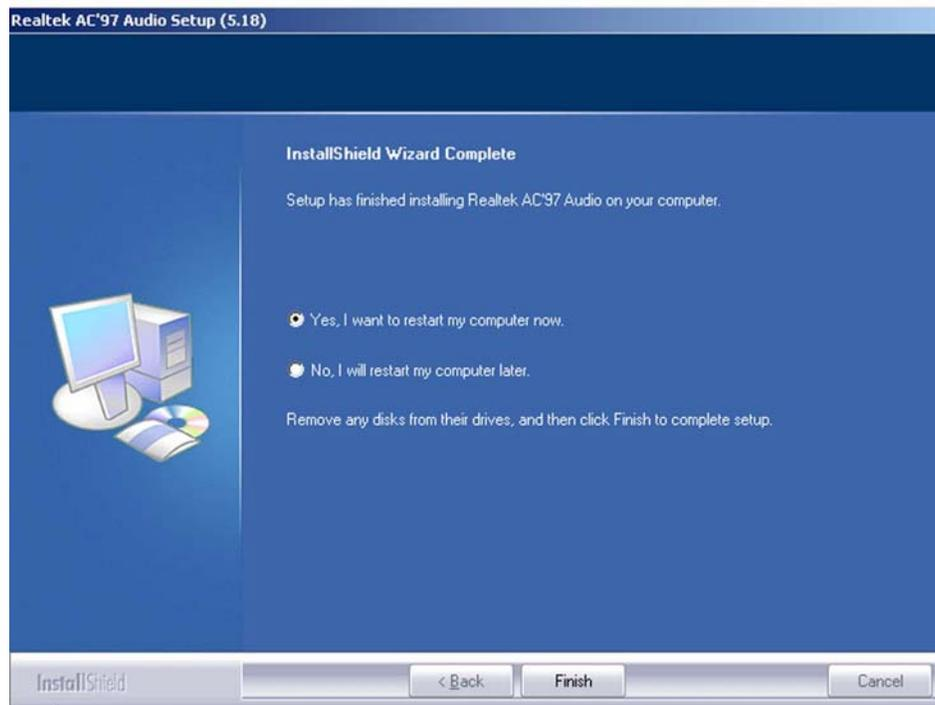

Figure 7-18: Audio Driver Installation Complete
Step 9: After the driver installation process is complete, a confirmation screen shown in **Figure 7-18** appears.
Step 10: Select when the system should be restarted, now or later. (see **Figure 7-18**)